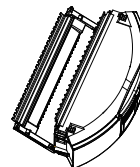

Figure 3
1. Lift up the clear cover, take out the filter (see Figure 3), and then clean the dust bin.